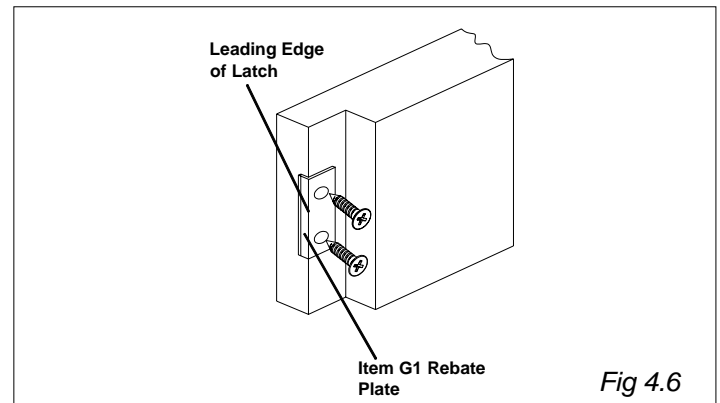

Fig 4.6
- 5) If fitting to a rebate door fit the optional Rebate Plate (Pack G) as shown in **Figure 4.6**.